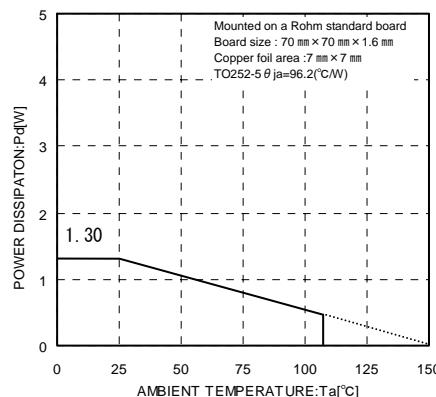
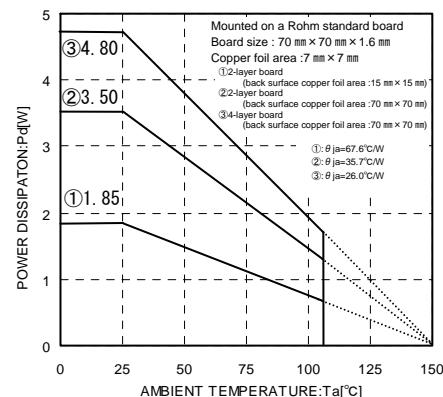

Fig.26
Fig.27(Reference data)
When using at temperatures over $T_a=25^\circ\text{C}$, please refer to the heat reducing characteristics shown in Fig.26 and Fig.27. The IC characteristics are closely related to the temperature at which the IC is used, so it is necessary to operate the IC at temperatures less than the maximum junction temperature $T_{j\max}$.
Fig.26 and Fig.27 show the acceptable loss and heat reducing characteristics of the TO252-5 package. Even when the ambient temperature T_a is a normal temperature (25°C), the chip (junction) temperature T_j may be quite high so please operate the IC at temperatures less than the acceptable loss P_d .
The calculation method for power consumption $P_c(\text{W})$ is as follows : (Fig.27③)
$$\left. \begin{array}{l} \text{Fig.27③: } \theta ja=26.0^\circ\text{C/W} \rightarrow -38.4\text{mW/}^\circ\text{C} \\ 25^\circ\text{C}=4.80\text{W} \rightarrow 85^\circ\text{C}=2.496\text{W} \end{array} \right\}$$